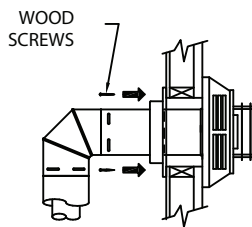

Figure 9
Step 7. Slide the Wall Thimble Cover up to the wall surface and attach to the wall with screws provided (**Fig. 9**). Apply optional decorative brass trim to Wall Thimble Cover, if desired.